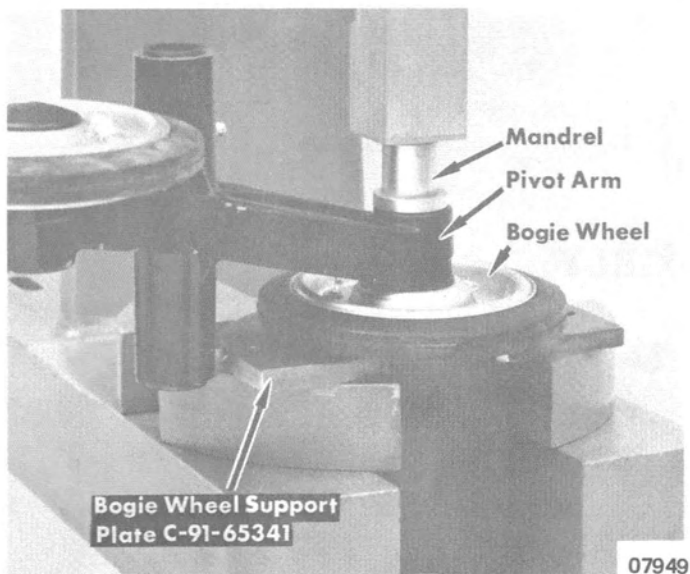

Figure 10. Pressing Bogie Wheel on Tubing or Arm
1. Install bogie wheel on tube assembly as shown in Figure 8. Bogie wheel may be installed with a press, as shown in Figure 10. Bogie wheels on rear bogie wheel set cannot be installed as shown in Figure 8; they **MUST** be pressed on.